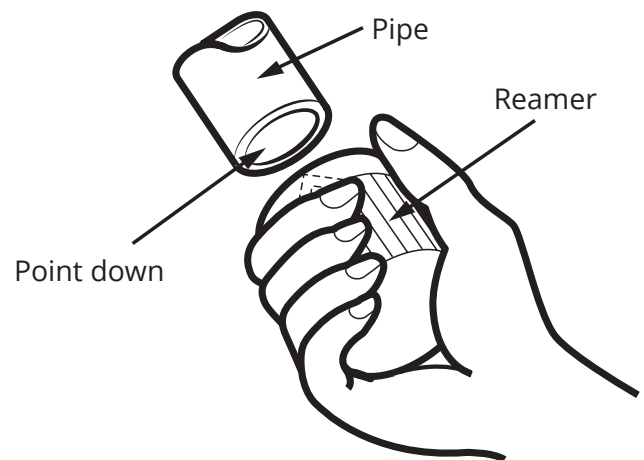

Fig. 2.10
2. Using a reamer or deburring tool, remove all burrs from the cut section of the pipe. Refer to **Fig. 2.10**